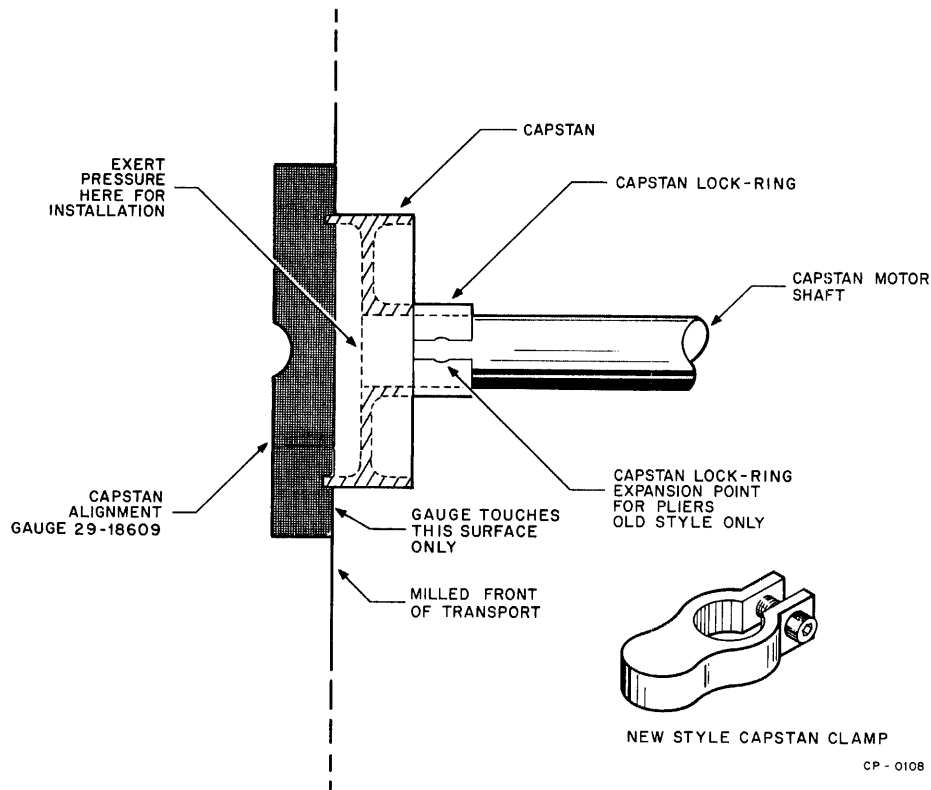

Figure 5-59 Capstan Adjustment
1. Use a pair of tru-arc pliers\* to loosen the capstan lock-ring and slide the capstan from the motor shaft. Check that there are no burrs on the end of the shaft or in the slots cut in the shaft of the capstan (Figure 5-59).
\*Old style only (see Figure 5-59).